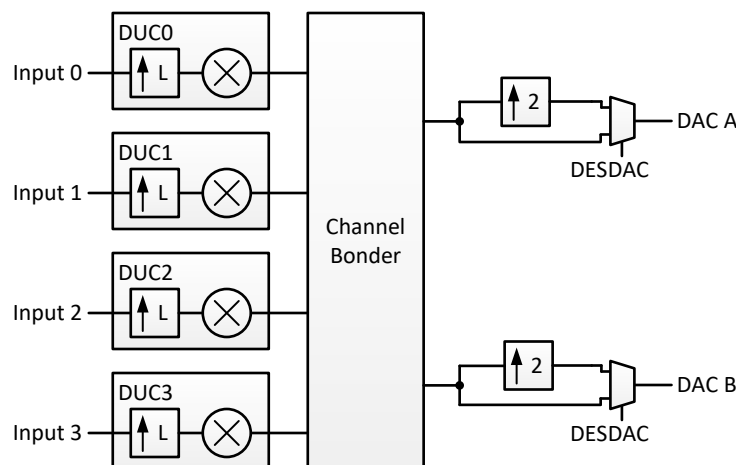

Figure 7-13. DUC Block with real output
The digital signal processing blocks are shown in Figure 7-13. The device includes four digital up-converter (DUC) blocks supporting four complex (IQ) input streams that can be combined at different RF frequencies. The four DUCs can be flexibly assigned and summed together for either DAC output in the channel bond. The final signal processing block is an extra interpolate by 2 filter for use with DES2XL/H mode.